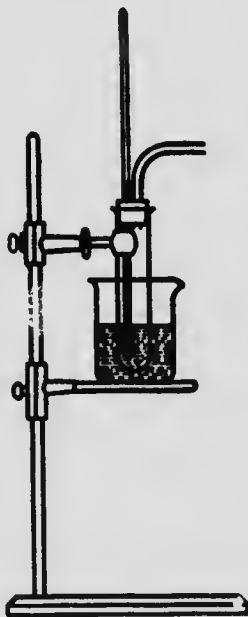

FIG. 55.
**Experiments.**—1. Carefully watching the mouth of the ether bottle, pour 5 cc. of ether into a large test tube, drop in a carpet tack and fit the two-holed cork with a thermometer and elbow tube. Put the cork into the mouth of the test tube (Fig. 55).